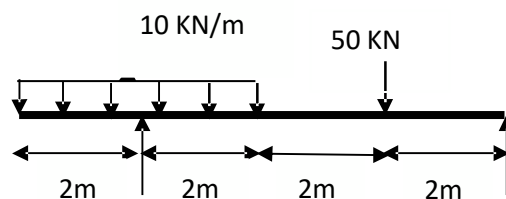

Fig.4
- a. Draw shear force and bending moment diagram for given overhanging beam as shown in fig.4